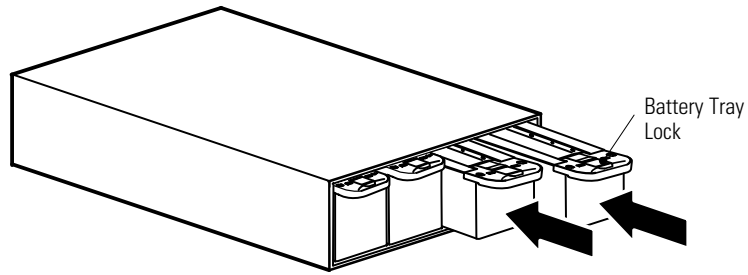

Figure 15. Installing the Battery Trays
5. Slide the new battery trays into the EBM cabinet (see Figure 15). Push each tray in until the battery tray lock on the handle catches to lock the tray in place.